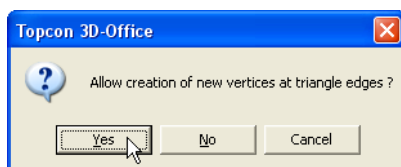

Figure 4-8. Create New Vertices at Triangle Edges
2. Click **OK** to create new TIN vertices (Figure 4-8).